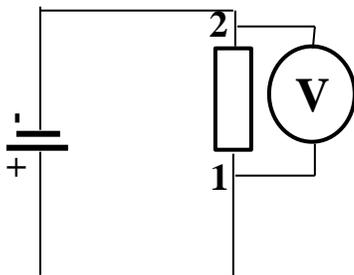

Figure 4. Schematic set up of the circuit with a voltmeter
The device designed to measure a Potential Difference or Voltage is called a *voltmeter*. The Voltmeter can be a part of a Multimeter, a device designed to measure multiple quantities including a potential difference. A Voltmeter is often built in to a DC Power Supply. To measure a potential difference between any two points in a circuit, the red terminal of the voltmeter is connected to a point at a higher potential and the black terminal to a point at a lower potential. On the Figure 4, point ① has higher potential than point ② (current *always* flows from higher potential to lower potential). Notice that the potential difference or voltage is measured **across** a battery or resistance.